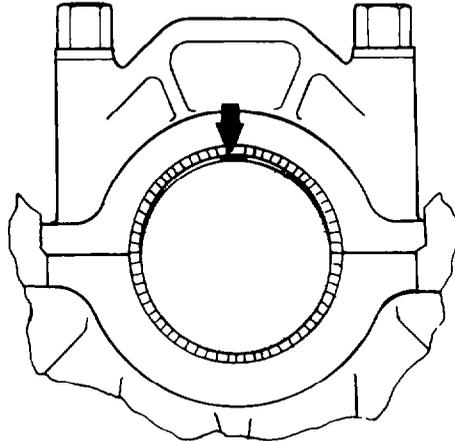

Fig. 65 — Positioning Plastigauge
- e. Place a core strip of Plastigauge on top of each main journal; the core strip must be suitable for measuring clearances of between 0.05 mm to 0.101 mm (0.002 in. to 0.004 in.) (see fig. 65).